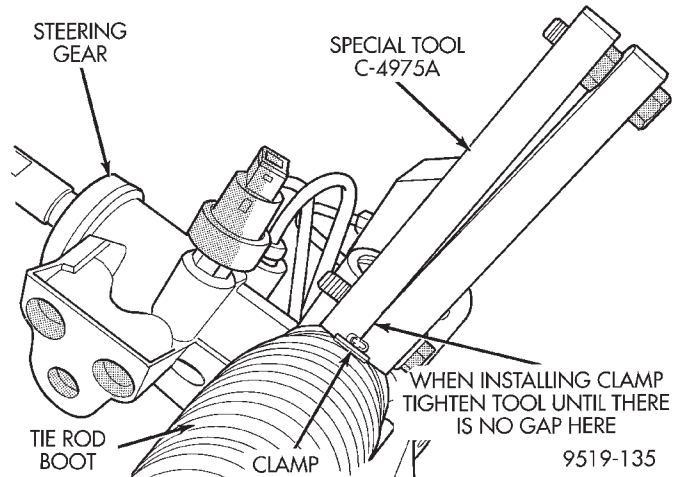

Fig. 30 Installing Tie Rod Boot To Steering Gear Clamp
(1) Install tie rod boot to steering gear clamp on tie rod boot. Then install tie rod boot on inner tie rod.
(2) Crimp inner tie rod boot to steering gear clamp on tie rod boot using Crimper, Special Tool, C4975-A (Fig. 30). When installing clamp, Special Tool C4975-A must have bottom bolt tightened until there is no gap between the 2 bars of the tool (Fig. 30).